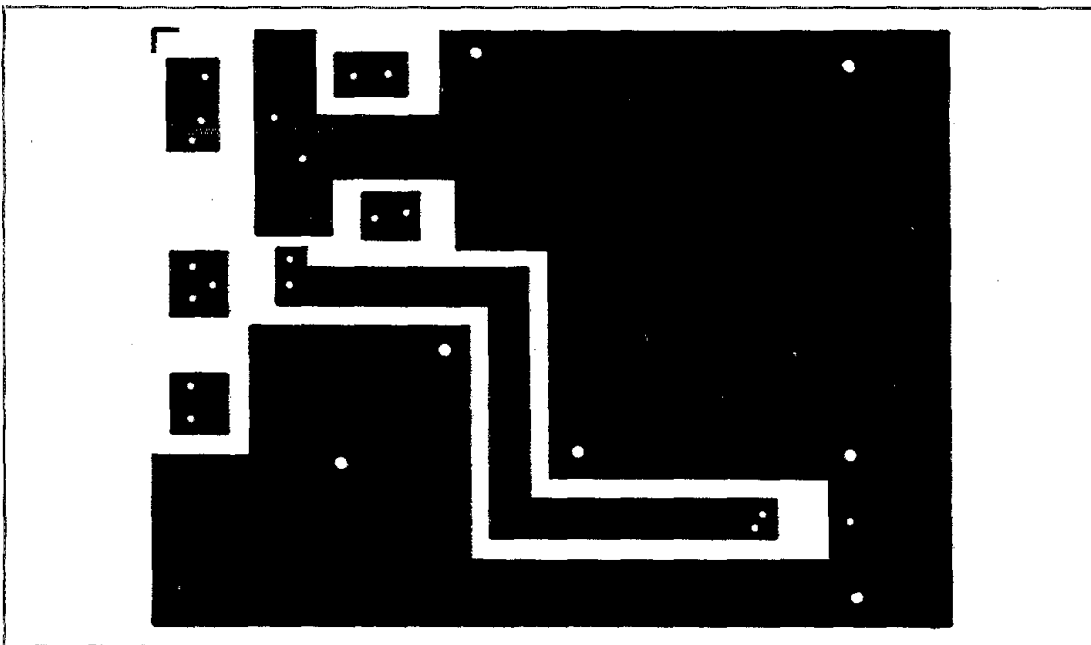

Fig. 2 — The etching pattern for Ridpath's "T-R Switching With PIN Diodes." Black represents copper.
□ Fig. 2 in Ridpath's "T-R Switching With PIN Diodes," March 1981 *QST*, omitted the added quarter-wave line and diode. The correct figure is shown here. Further, the etching pattern is *not* actual size. A full-size pattern appears in Fig. 2.
□ The two main advantages of coreless baluns over the ferrite-core type is that they are not subject to core saturation and possible power loss known to affect ferrite-core baluns under some conditions. Furthermore, coreless baluns present low SWR readings over a broad band of frequencies. I have a Collins-type coaxial-cable balun (Figs. 2 and 3) in my antenna system, put there originally because I did not wish to string up a footwarmer for the birds nor did I wish to waste costly energy.
A coaxial-cable balun is easy to build and inexpensive, and does not require the help of an *et lab*, computer or calculator. To form the coil, the cable may be wrapped around a plastic bottle in the manner shown in Fig. 2. For mechanical stability the turns are closely spaced. An odd number of turns allows the center feed point and the output leads to appear on opposite sides of the coil.
Fig. 2 — A coreless balun formed around a section of a plastic bottle. It contains an odd number of closely spaced turns of coaxial cable so that the terminating ends and the feed point are on opposite sides of the coil, offering an advantage for installation.